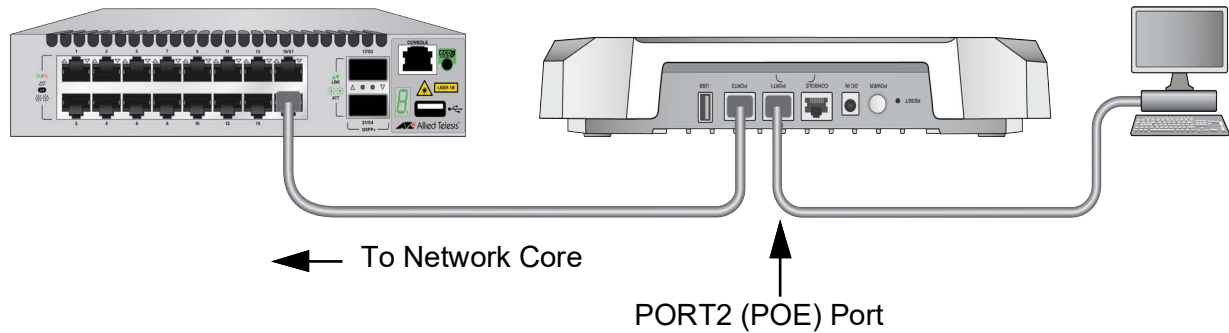

Figure 7. PORT2 Port in Cascade Mode with an End Node
**Cascade Mode** The PORT2 port also has a Cascade mode. The mode allows you to use the port to connect another device to your network. The device can be an end node such as a printer or computer, as shown in Figure 7.